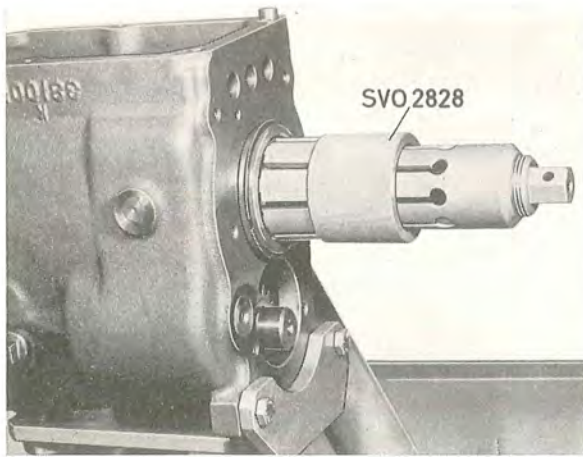

Fig. 4-20. Removing the mainshaft rear bearing, M 400
8. Remove the speedometer gear. Pull out the rear bearing of the mainshaft with tool SVO 2828, see Fig. 4-20. If the bearing sticks in the gearbox housing, push the mainshaft forwards so that its drive and synchronizers go against the drive of the intermediate shaft. To prevent this, place a piece of flat iron or similar between the front end of the main shaft and the gearbox housing. For the M 410, remove the bolt in tool SVO 2828